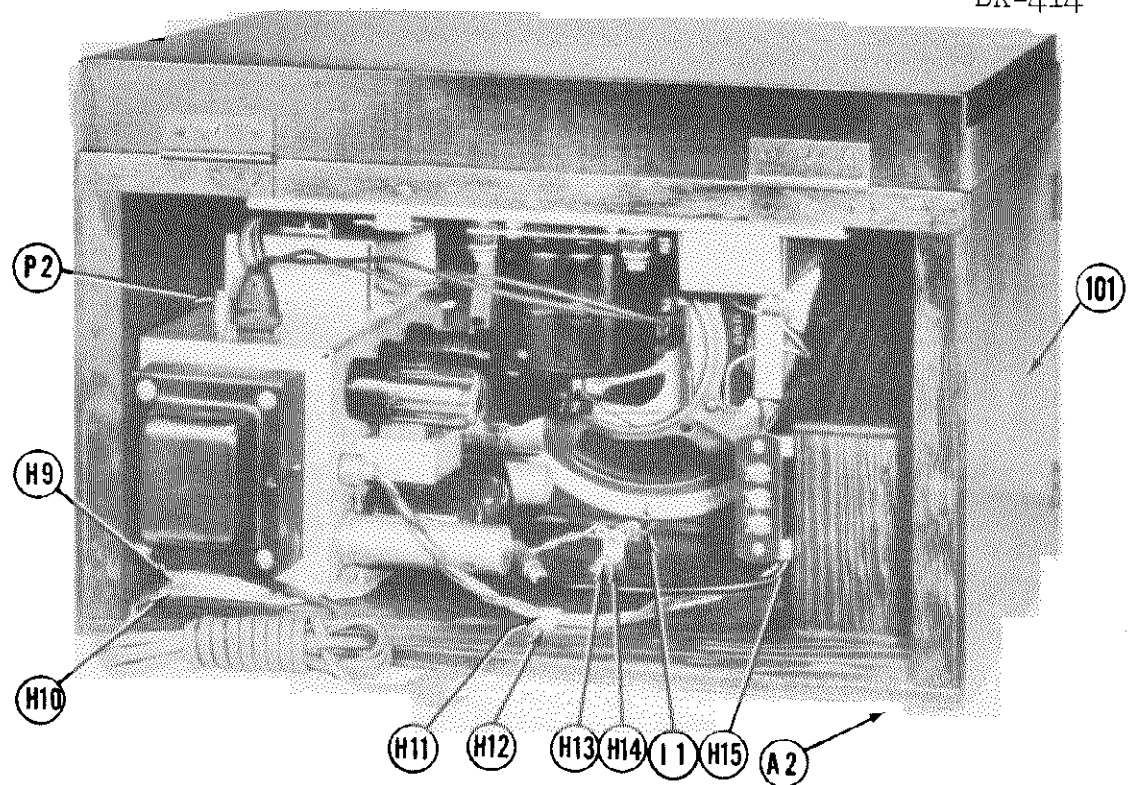

Fig. 35—Model BK-411—Rear View
9. Remove the screws (H9 Fig. 35) which hold the amplifier chassis to the bottom of the cabinet.
17. Remove the screws which mount the speaker terminal strip to the side of the microphone compartment. (H-15, Fig. 35).